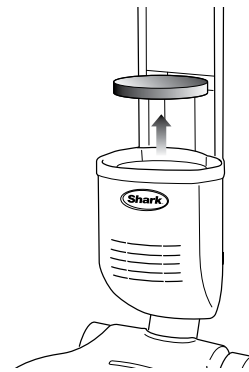
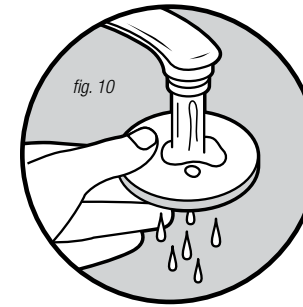

fig. 9
fig. 10
- 2 Remove the foam filter (fig. 9) and rinse under water until the water runs clear. (fig. 10) Squeeze the excess water out of the filter and let it air dry for 24 hours before replacing.